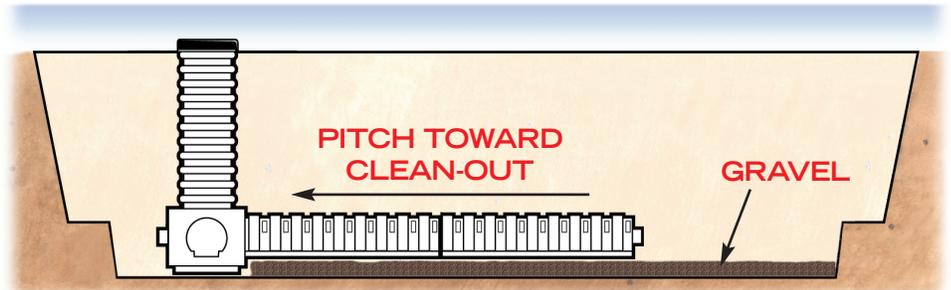

Figure 8
8. Place the filter units back into the trough. Using a layer of gravel or stones under the Centipede™ to adjust the pitch— it should be sloping slightly towards the clean-out Snorkel™. (Figure 8)